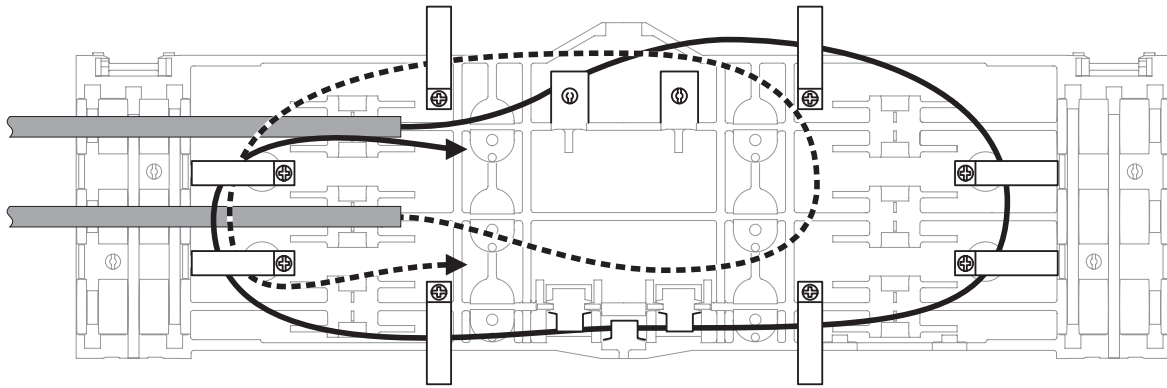

FIGURE 10A—Short Fiber Bundle Configuration.
7.03 If fiber bundles do not match up with entry or exit ports on splice trays by following outer ring storage paths as in Section 7.01, shorter loops may be routed as per Figures 10A & B.